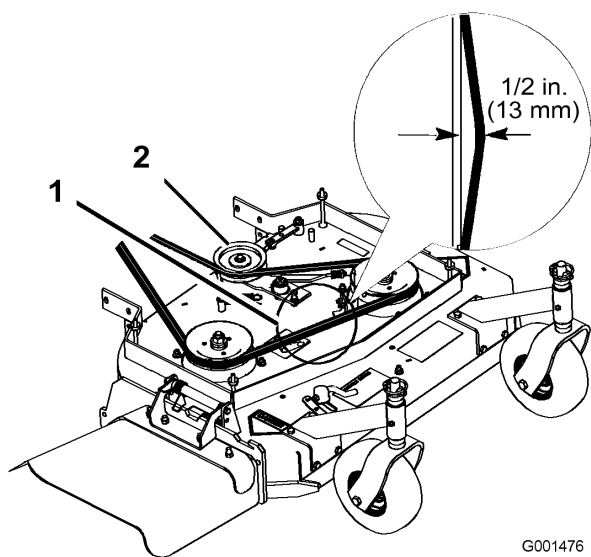

Figure 48
4. Remove the idler pulley and the worn belt (Figure 48).
Note: The proper mower belt tension is 10-15 lbf. (44-67 N) with the belt deflected 1/2 inch (13 mm) halfway between the pulleys (Figure 48).